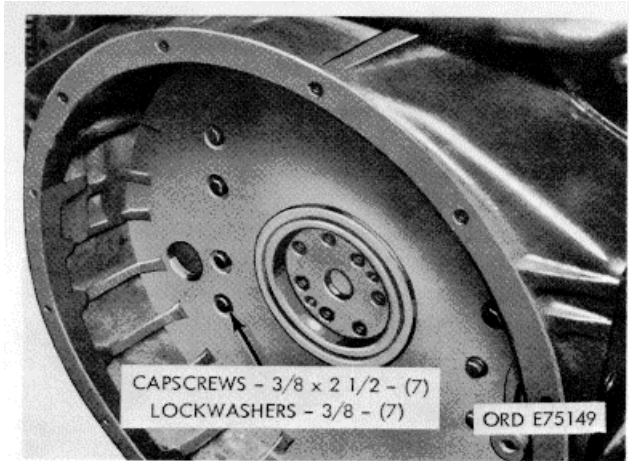
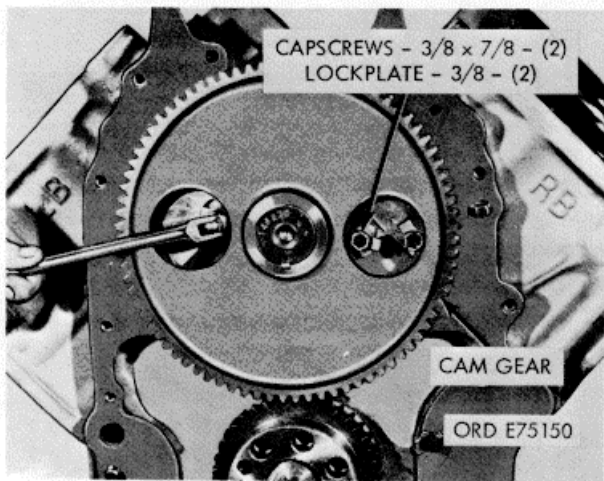
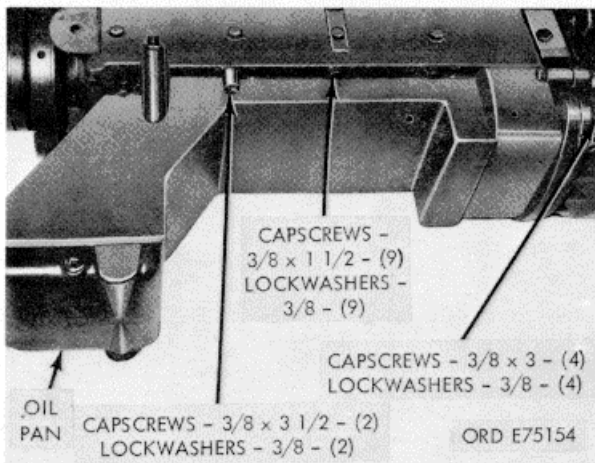

Figure 2-23. Flywheel housing - removal/installation.
Figure 2-24. Camshaft, gear and spacer plate-removal/installation.
Figure 2-25. Oil pan-removal/installation.
(3) Remove adapter.
*J. Flywheel Housing* (fig. 2-23).
(1) Remove eight cap screws, lockwashers, and flat washers securing oil pan to flywheel housing.
(2) Remove seven cap screws and lockwashers securing flywheel housing to engine block.
(3) Using a rubber mallet, or brass head driver, free housing from block and remove housing and gasket.
*k. Camshaft, Gear, and Spacer Plate* (fig. 2-24).
(1) Straighten lockplate fingers on two cap screws securing camshaft thrust plate to engine block.
(2) Remove cap screws and discard lockplates.
(3) Remove camshaft and gear from block. Rotate camshaft gear slightly while pulling.
(4) Remove spacer plate and two plate to block gaskets.
*l. Oil Pan* (fig. 2-25).